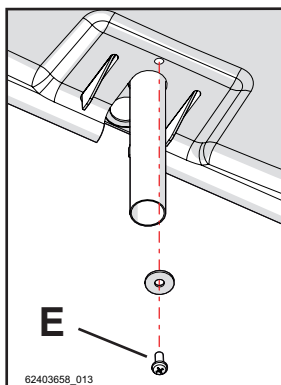

Figure 5-36
- 7 - Lock the cover using clamping screw "E", as shown in figure 5-36.
- Remove the fixing screw "E" in figure 5-36;